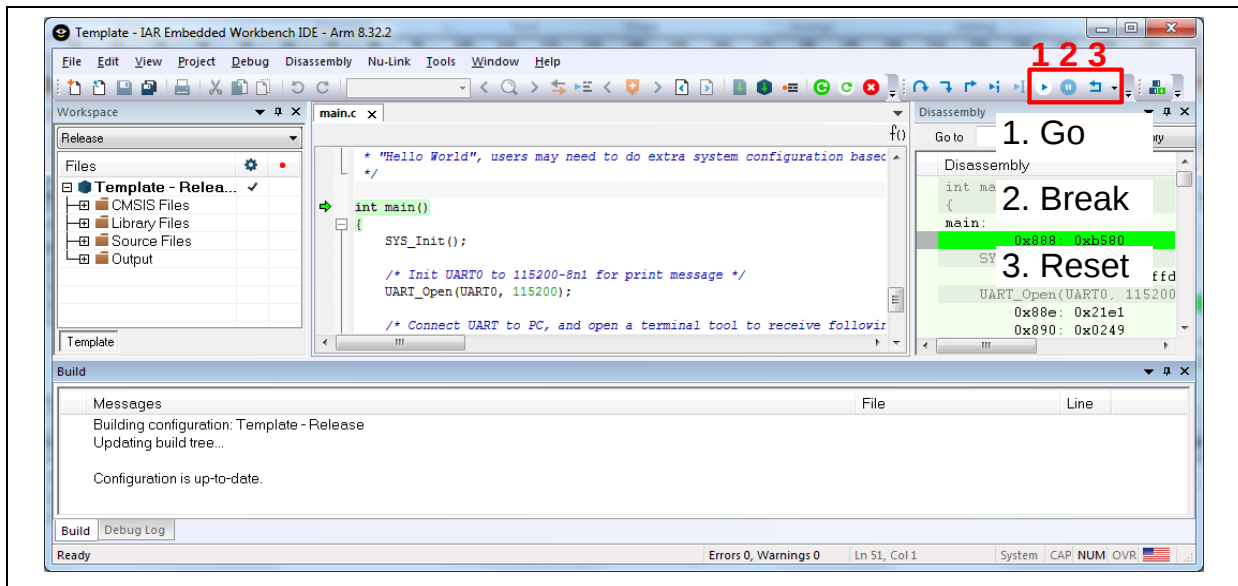

Figure 5-17 IAR EWARM Debug Mode
4. Figure 5-17 shows the debug mode under IAR EWARN. Click “Go” and the debug message will